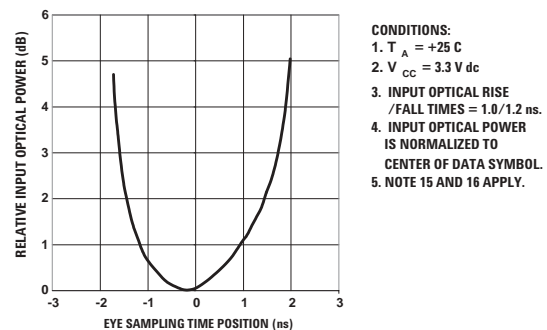

Figure 8. Relative Input Optical Power vs. Eye Sampling Time Position.
| Input Optical Power Minimum at Window Edge | $P_{IN\ Min.}\ (W)$ | | | $P_{in\ Min}\ (C)$ +1 dB | dBm avg. | Note 14 Figure 8 |
| Input Optical Power Minimum at Eye Center | $P_{IN\ Min.}\ (C)$ | | | -29 | dBm avg. | Note 15 Figure 8 |